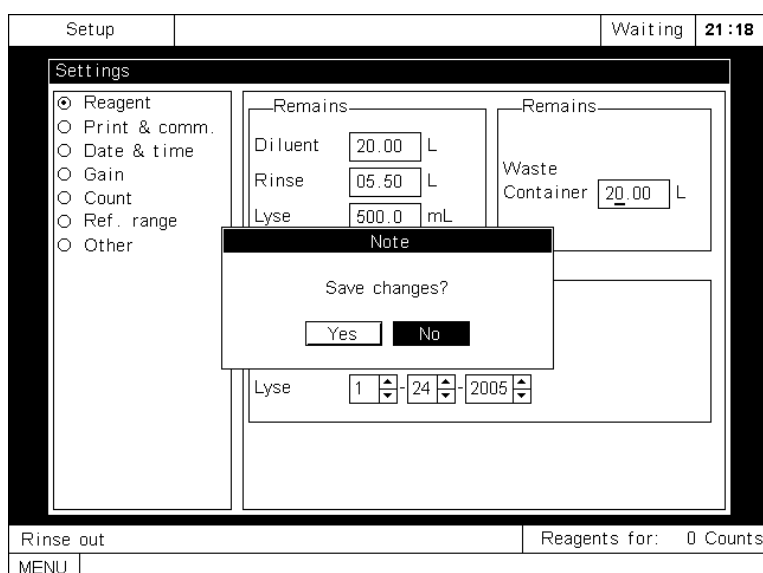

Figure 7-8 Saving changes
- press [MENU] and a dialog box will pop up to remind you to save the changes, as Figure 7-8 shows.. Press [] or [] to move the cursor to Yes and press [ENTER] to save the changes and exit to the system menu or move the cursor to No and press [ENTER] to exit to the system menu without saving the changes.